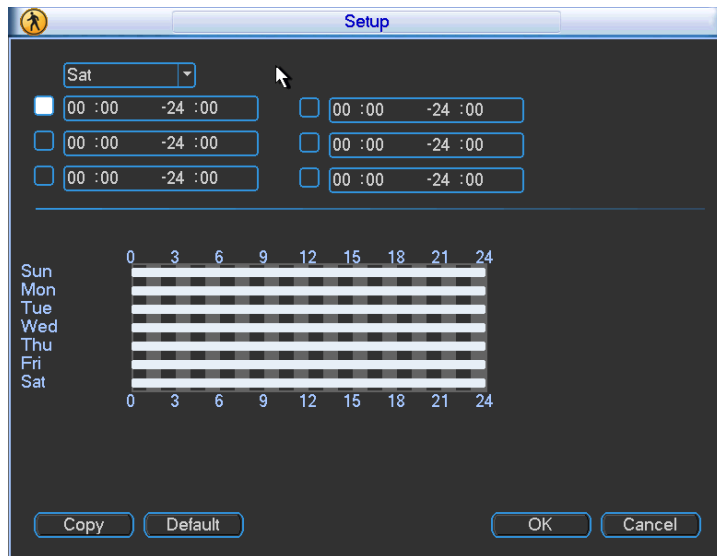
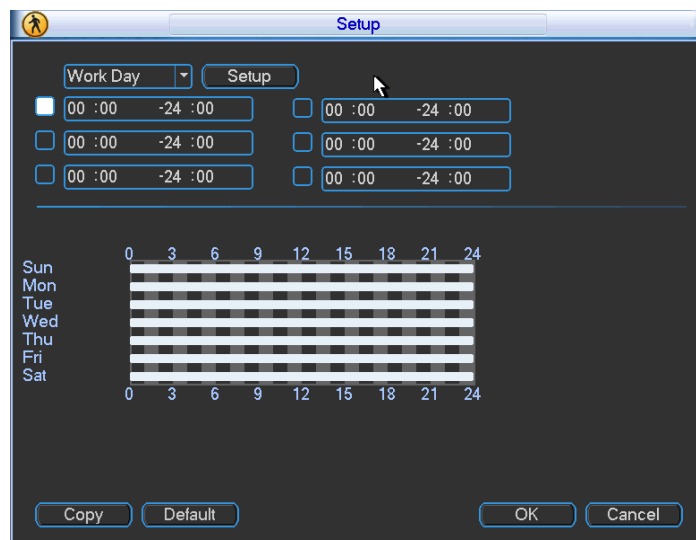

Figure 4-28
Figure 4-29
- Period: Click set button, you can see an interface is shown as in Figure 4-28. Here you can set motion detect period. System only enables motion detect operation in the specified periods. It is not for video loss or the camera masking. Please select Sunday to Saturday from the dropdown list. You can see there are six periods for you to set. Please note you need to check the box before the period to enable the period setup valid. In Figure 4-28, select work day or non-work day from the drop down list, and then click the Set button, you can set your own business day and non-business day setup. See Figure 4-29. You can set Monday to Friday as the working day and Saturday and Sunday as non-business day. Click Save button to go back to previous interface.